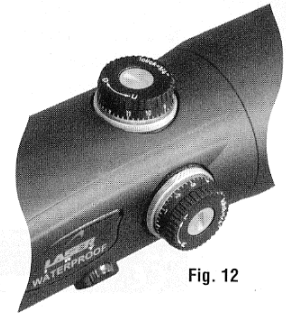

Fig. 12
- For the Laser IRT adjustment is made by turning the grip by hand. If the bullet hits under the aiming point, turn the grip in the direction of the arrow marked “U”. If the bullet hits to the left of the aiming point, turn the grip in the direction of the arrow marked “R” (Fig. 12).